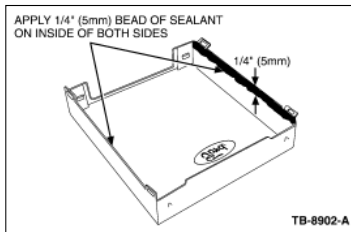

Figure 4 - Article 07-14-1
8. Apply Motorcraft TA-29 Ultra Silicone Sealant to all edges depicted. (Figure 4, 5, 6, 7) Proceed directly to Step 9 - do not let the sealant skin over.